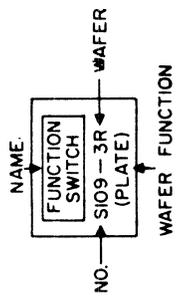

Figure 4-9. Simplified Cold Cathode Rectifier (OZ4) Test Circuit
f. COLD CATHODE RECTIFIER TEST CIRCUIT ANALYSIS. (See figure 4-9.) — When OZ4 pushbutton P6 is pressed, voltages tapped from transformer T101 secondaries No. 2 and No. 7 are applied in series across the plate and cathode of the tube under test through limiting resistor R119 and other components mentioned before. Higher voltage is required to ionize the gas in the tube and cause conduction. The metering circuit again includes shunt resistor R112. No filament voltage is required for this test.